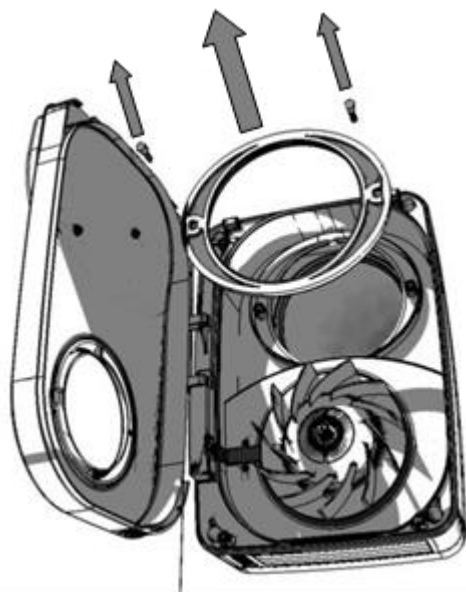
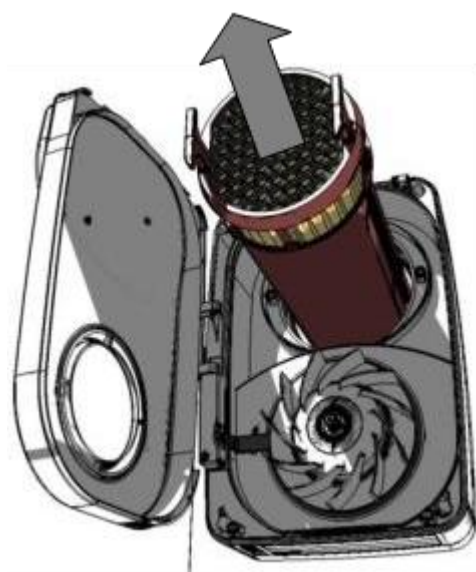

Figure 29
Figure 30
3. Remove the screws and the retaining clamp (Figure 29) and carefully slide out the heat exchanger (Figure 30).